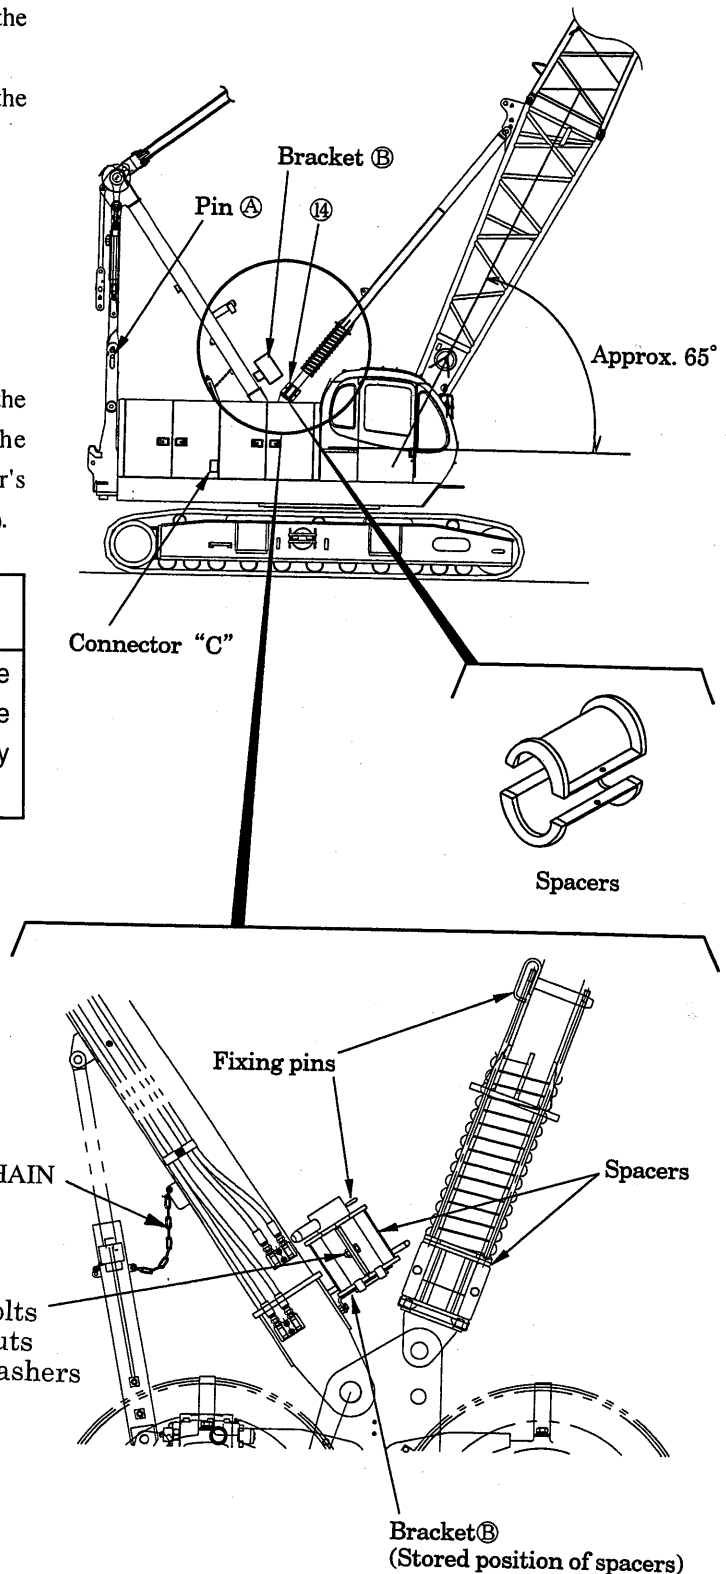
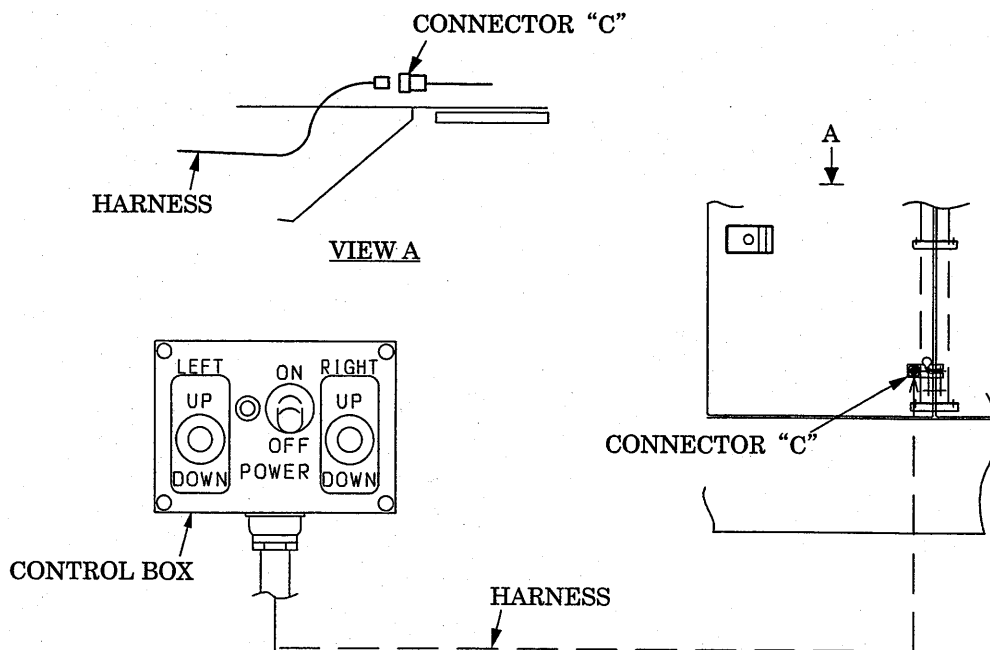
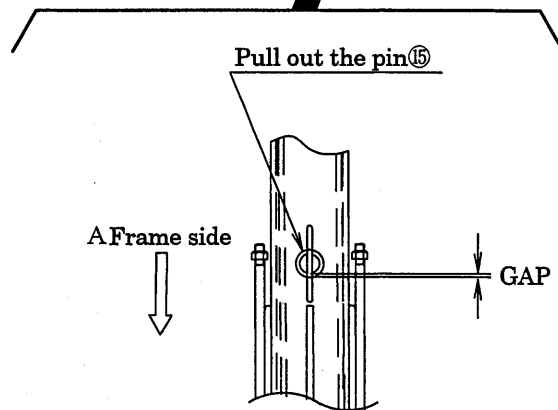

Fig 10-4
Fig 10-8
Fig 10-18
- (1) With the posture shown in (Fig. 10-4), operate the gantry raising cylinder with a switch in the operator's cab (refer to the crane operator's manual), and remove the tension member pin ①.
- Further raise the boom from the boom height shown in (Fig. 10-4), and insert the backstop fixing pin ⑮ to connect the inner and outer (Fig.10-5).
The pins are stored in bracket ⑮. (See Fig. 10-4)
(See Fig. 10-4)
- (2) Stop the engine. Then, open the right guard door, and connect the control box to the connector inside of the guard (Fig. 10-4, Fig. 10-8).
- (2) Remove the pins ⑮ with flags inserted into the backstop. The pins can be easily removed by raising the boom a little (Fig. 10-18). Store the pins (with flags) in the bracket "B" (See Fig.10-4).
Raising the boom without removing the pin ⑮ (Fig. 10-18) will damage the backstop or the boom base, and may cause serious injury or loss of life.